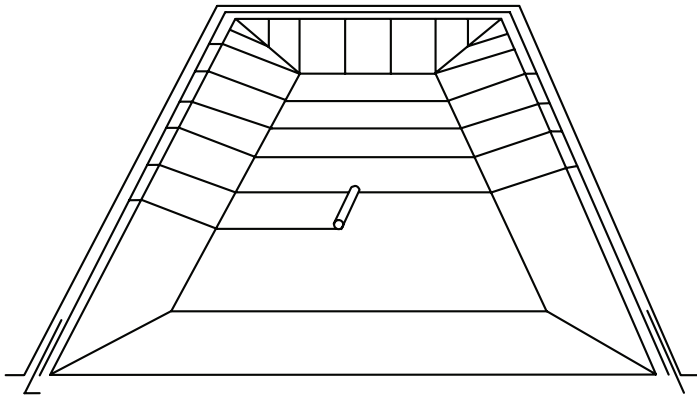
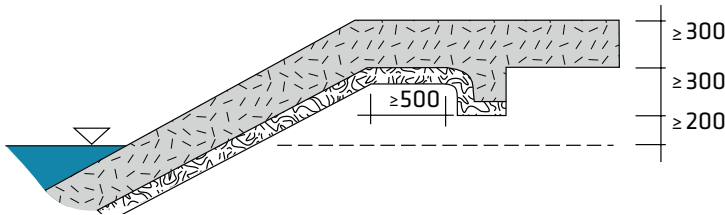

Figure 8 Recommended panel layout for sloping sites
Figure 9 Typical anchor trench (all dimensions shown are typical values only)
Sorbseal panels should be deployed in the direction of the slope as per Figure 8 and anchored at the crest of the slope (Figure 9). End (or transverse) overlaps on steep slopes should be avoided. If overlaps on slopes are unavoidable, please consult your local Geofabrics branch for information on custom extra-long GCL rolls.
- An anchor trench should be used at the top of slopes steeper than 7H: 1V. (see Figure 9 for a typical anchor trench detail);